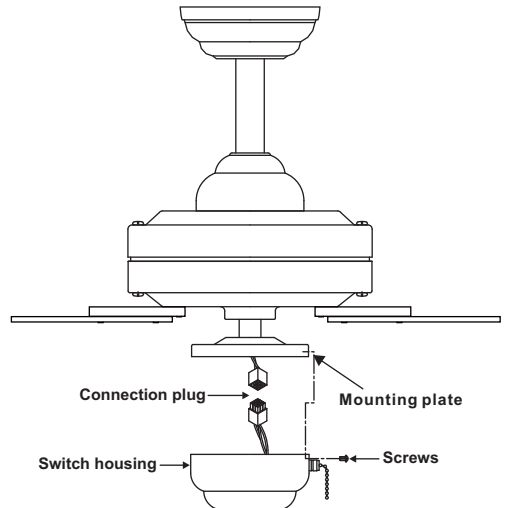

Figure 15
2. While holding the switch housing under your fan, snap together the wire connection plug. (Figure 15)
3. Raise the switch housing to the mounting plate until the holes in switch housing and mounting plate line up. Reinsert screws to secure in place. (Figure 15)